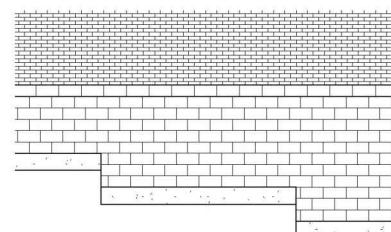

FIGURE 11-2.12
- Use the *Lines* tool, on the *Ribbon*, and any of the edit tools (*Split*, *Trim*, *Mirror*, etc.) to redefine the perimeter of the wall in elevation. Modify the bottom magenta sketch line to follow the tops of the footings. Click **Finish Edit Mode** (i.e., green checkmark) when done (Figure 11-2.12).